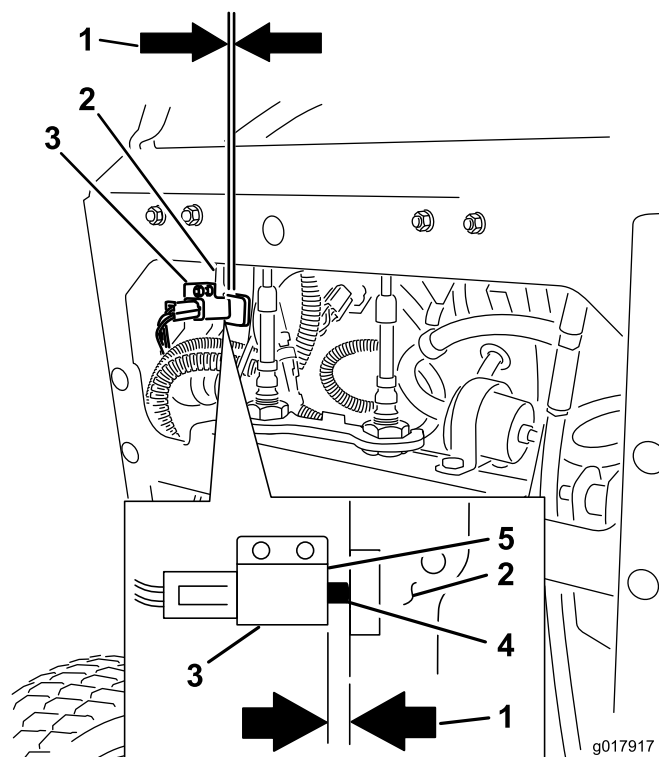

Figure 72
12. Check the gap between the brake lever and the face of the switch as shown in Figure 72. The gap needs to be a 3mm (1/8 inch) with the brake **engaged**.